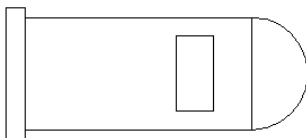

**Figure 4-32:** The completed steam boiler.
11. Save your drawing. It should look like Figure 4-32.